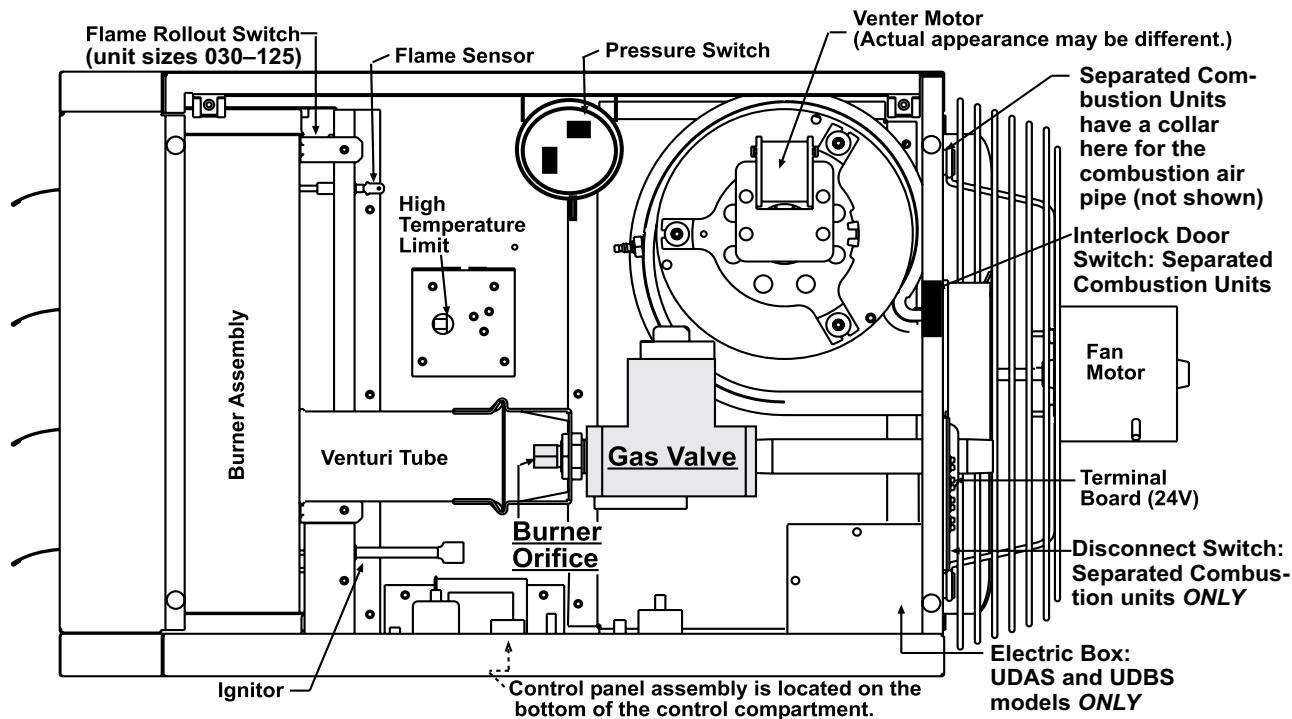

Figure 1. Heater Components
Install the conversion kit in accordance with the following steps. Ensure that the kit is correct for the size of the heater being serviced (refer to Table 1 or Table 2). Heater component locations are shown in Figure 1.
- a. Locate pressure switch in control compartment (see Figure 1) and mark and disconnect two pressure switch wires.